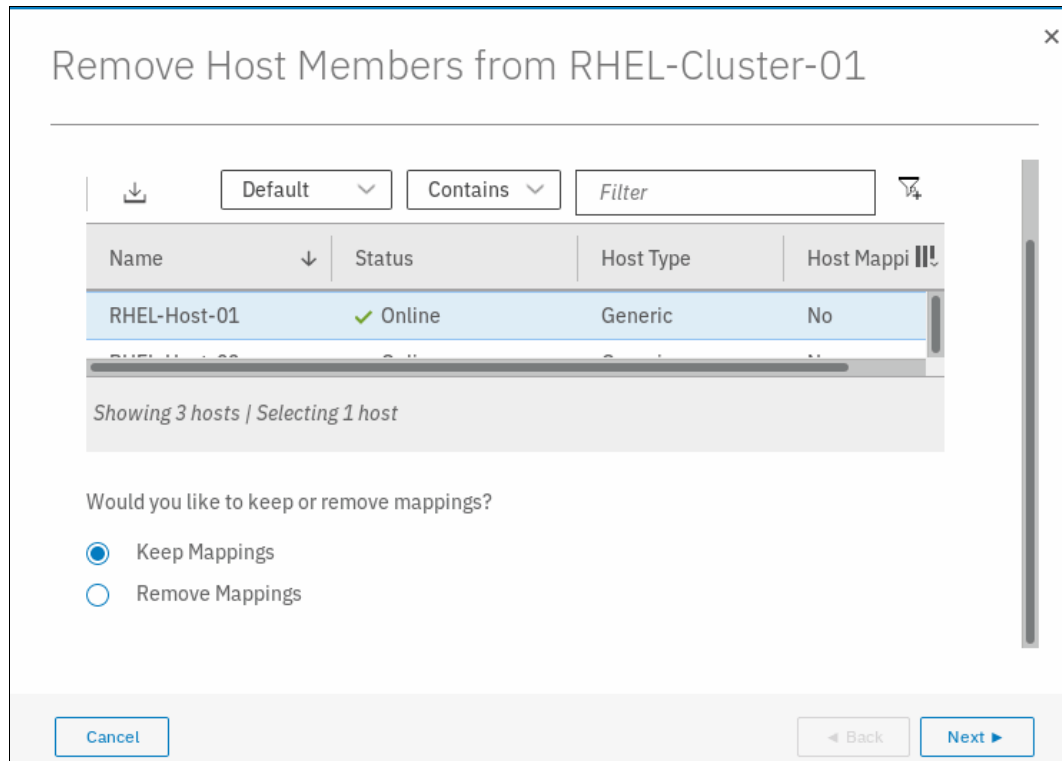

Figure 5-99 Host member selected
4. Select the host member that must be removed, as shown in Figure 5-99.